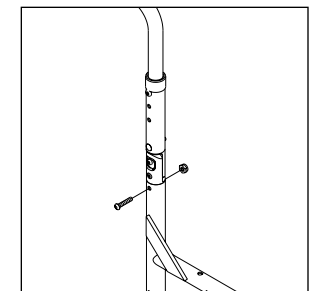

Figure 12
2. Pivot Point Height Adjustment (Fig. 12)